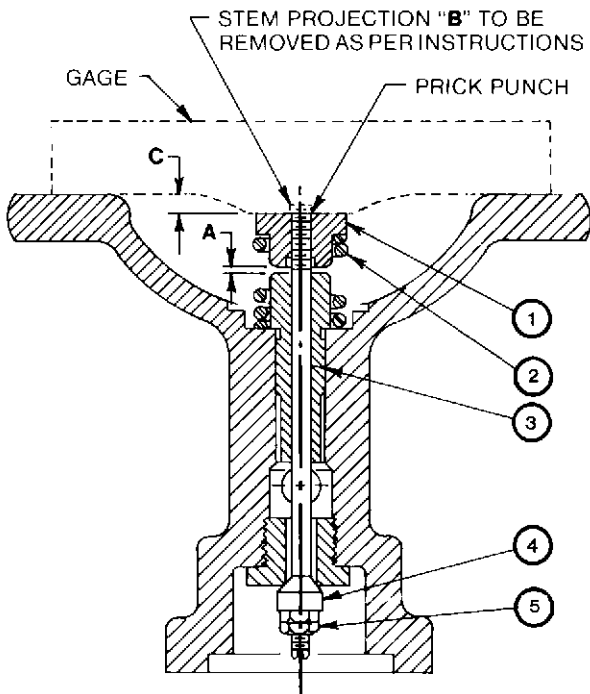

FIGURE 4 - TRAVEL SETTING
- 3 - Secure disc (4) to stem (3) with a stem nut (5). Insert this assembly into pilot body (omit valve spring).
- 5 - Screw pusher plate (1) on stem (3). Holding disc against its seat, adjust the pusher plate so that dimension C = 11/64" (See Figure 4 or 5).